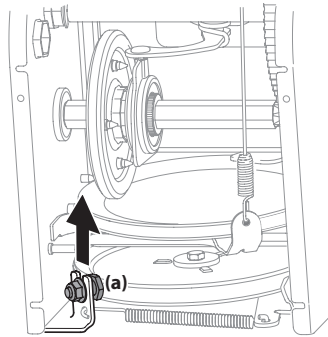

Figure 4-17
- Loosen and remove shoulder bolt (a) which acts as a belt keeper. See Figure 4-17.
NOTE: Make sure to reinstall shoulder bolt (a) and reconnect spring to frame after installing a replacement auger belt. Refer to Figure 4-17.